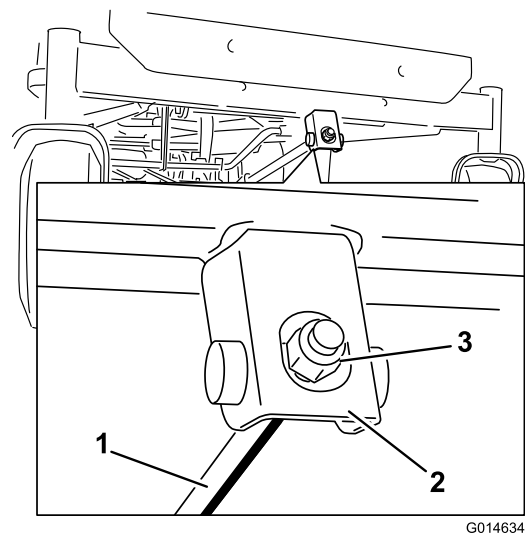

Figure 51
6. To adjust the front-to-rear blade slope, rotate the adjustment nut in the front of the mower (Figure 51).